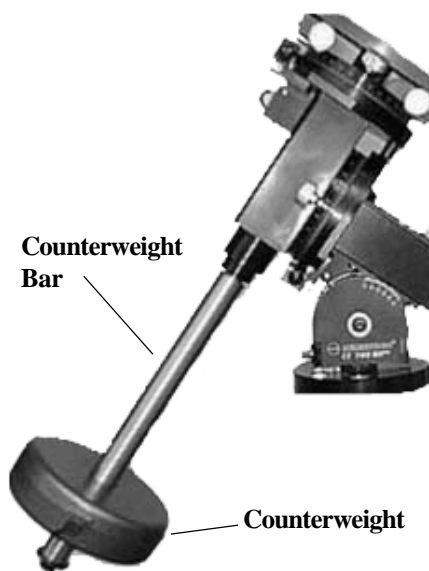

Figure 2-7
1. Orient the mount so that the counterweight bar points toward the ground (see figure 2-7).